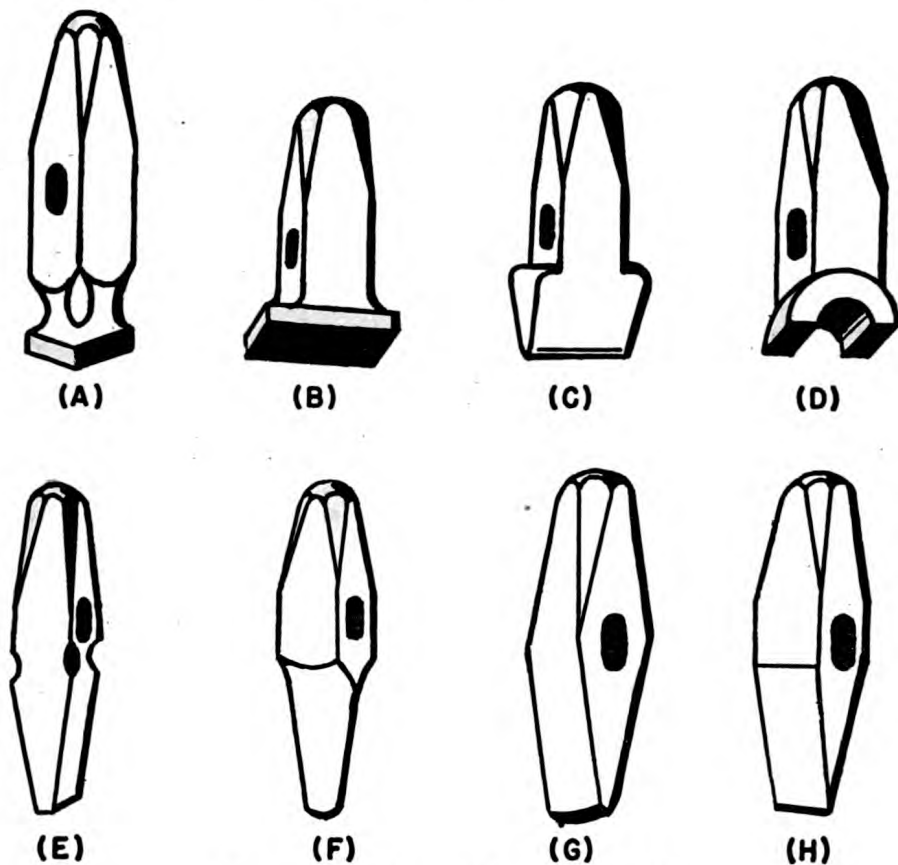

Figure 84.—Types of hammer heads.
The SQUARE-HEADED SET HAMMER, shown in (A) of figure 84 is used to produce a flat surface, or to make a square shoulder or projection. A FLATTER, the head of which is shown (B) is used for the same class of work as the square set hammer. But the flatter has a larger face than the square-headed set hammer, as you can see. For this reason the flatter is used in finishing to flatten down a surface.
The FULLER, (*C*) in figure 84, is the set hammer head used in spreading the metal. Because of its shape, the fuller head concentrates the force of the sledge blow on a small surface and therefore makes it more effective at that particular place. Its effect is much like that of the straight-peen hammer.
You make use of CHISEL-SHAPED set hammer heads, like those in figure 84 for CUTTING and NICKING your material. The cold-cutter chisel shaped